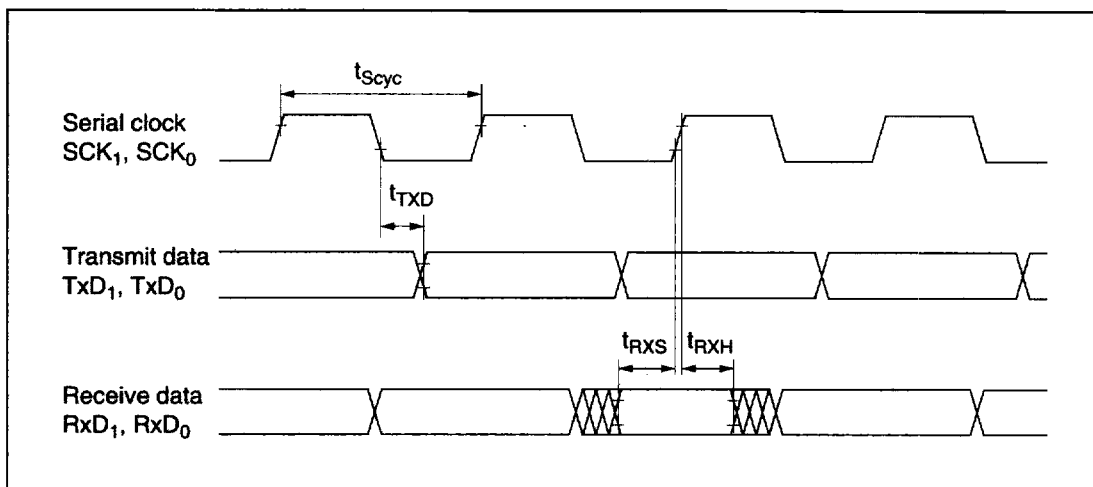

Figure 19-16 SCI Input/Output Timing (Synchronous Mode)
19.3.6 Serial Communication Interface Timing	Figures 19-16 and 19-17